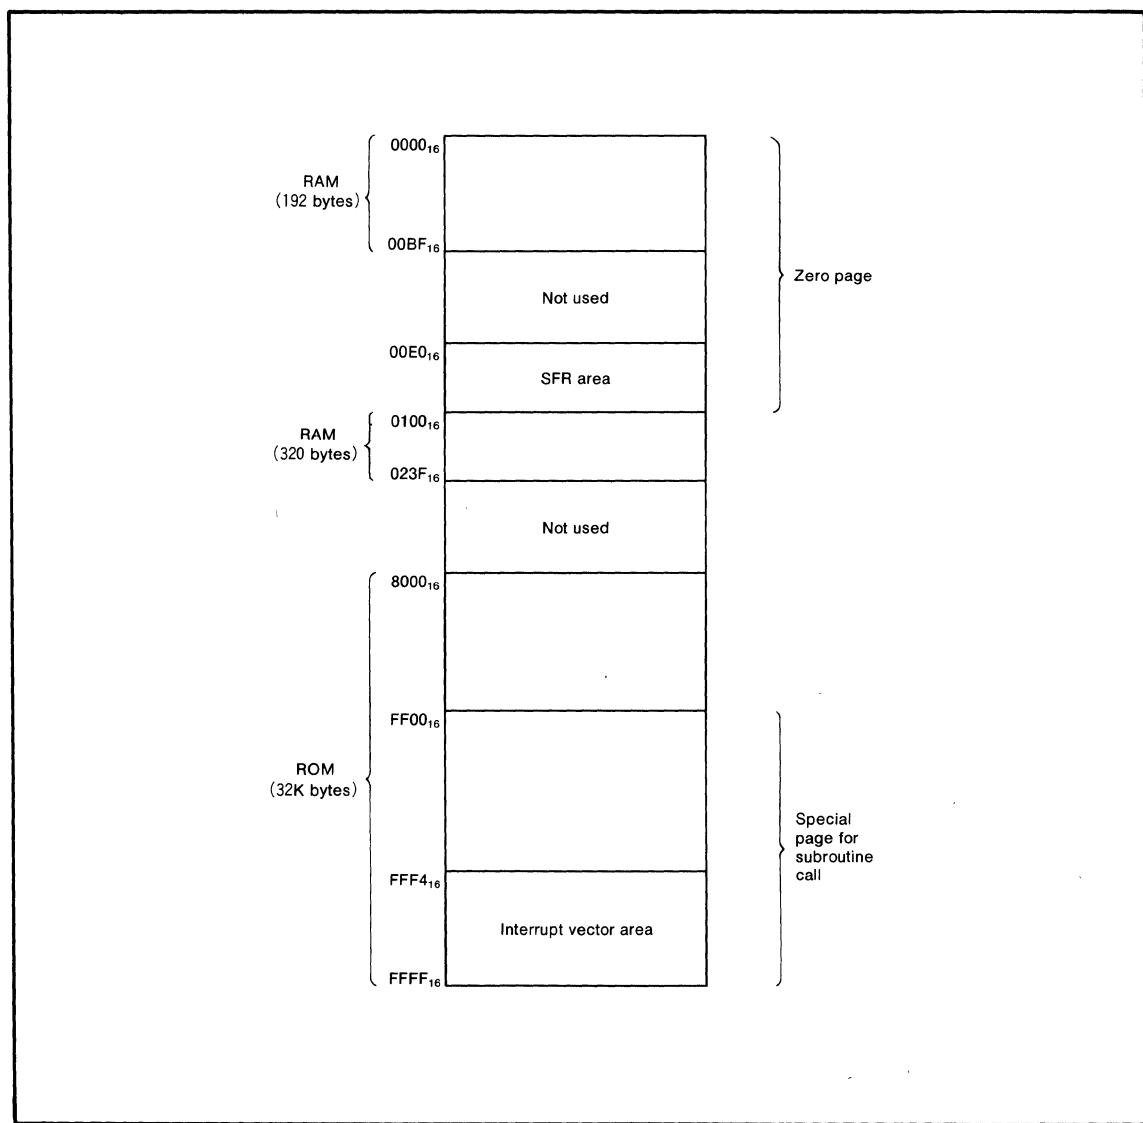

Fig.1 Memory map
- (1) In case of the M5L27128K or the M5L27256K EPROM use the following areas (refer to Figure 1):
- (2) In case of the development of programs by the M37421P-000SS or M37421P-001SS, RAM area for the stack: